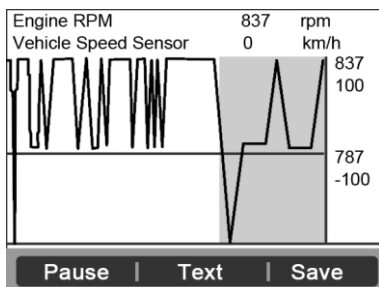

Figure 5.31
- 5) Press the Function button corresponding to **Merge Graph**, the above two graphs will merge together as Figure 5.31.